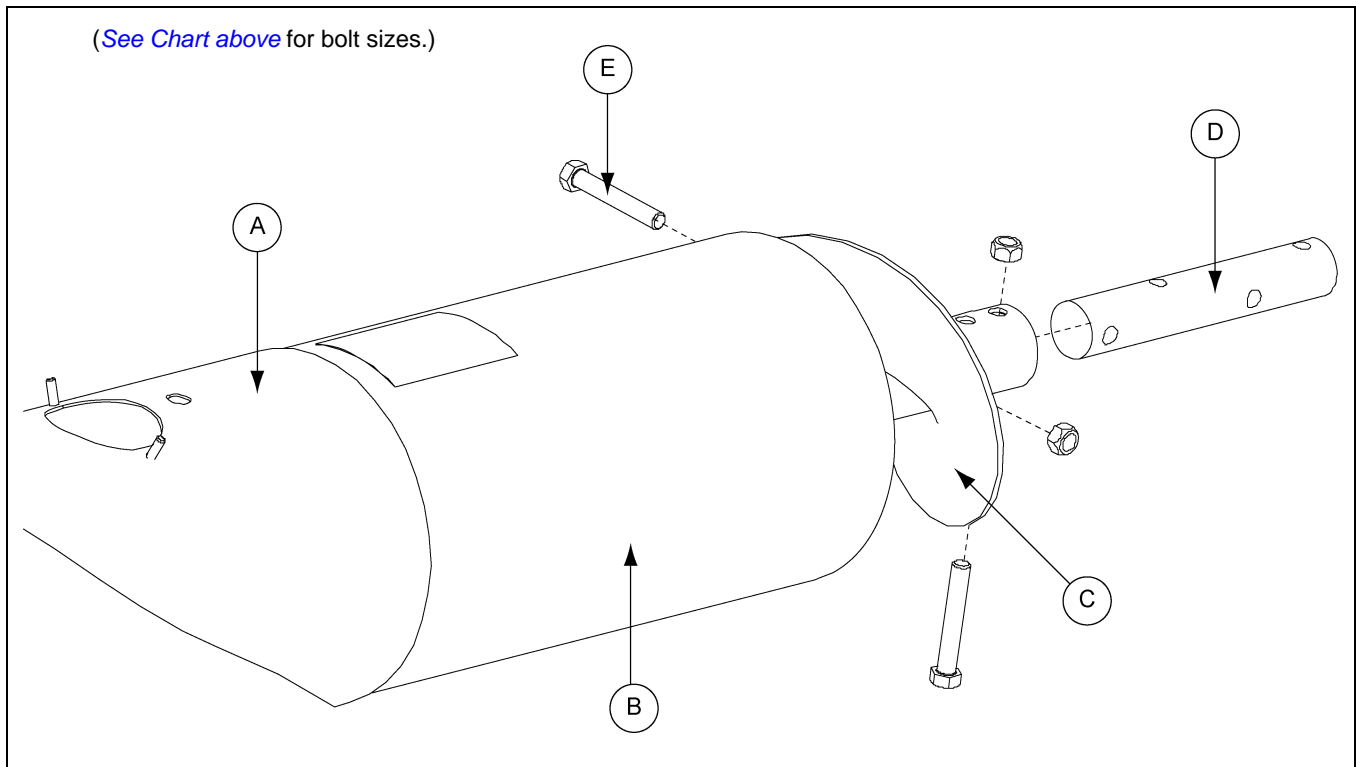

Figure 4Q
- Slide connecting band (A) onto main auger tube (B) and attach connecting stub (D) to main auger flight (C) using the assigned hardware. (See Chart below and Figure 4Q.)